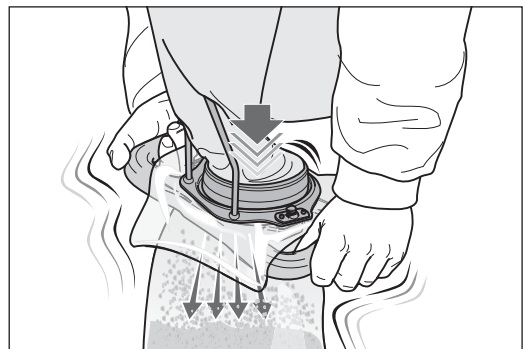

Fig. 23 Empty the dust bag by shaking it vigorously.
- 14 Emptying the dust bag into the waste bag by shaking it vigorously (Fig. 23).